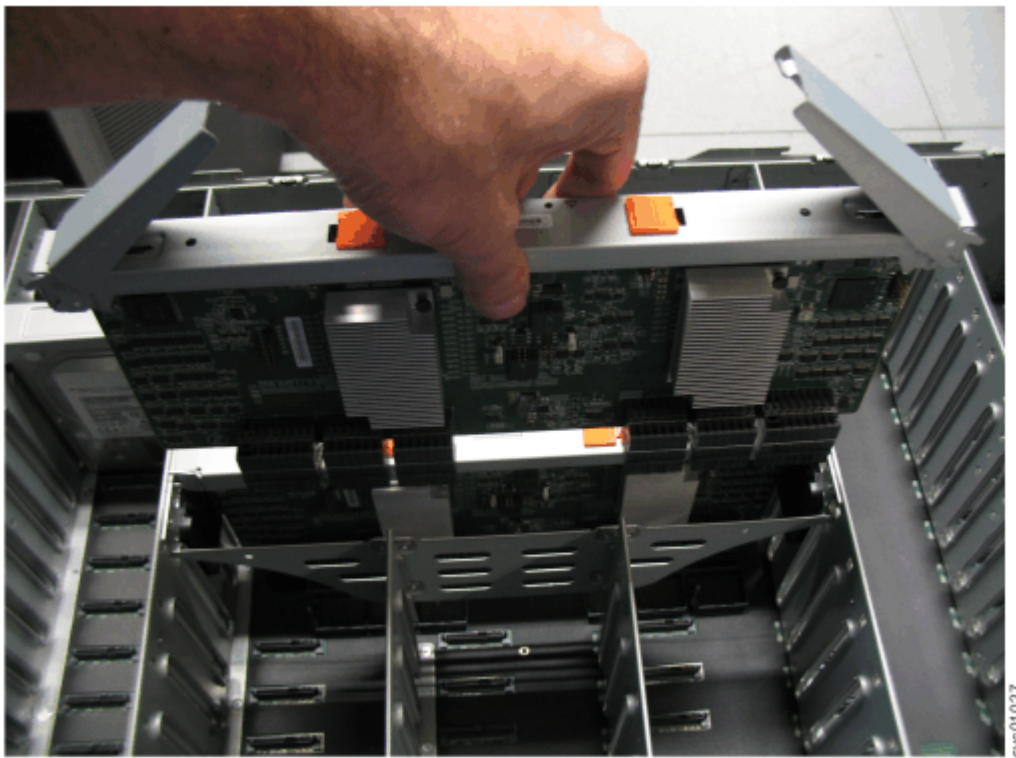

Figure 133. Remove the secondary expander module
4. Lift the secondary expander module carefully out of the enclosure, as shown in Figure 133 on page 185.